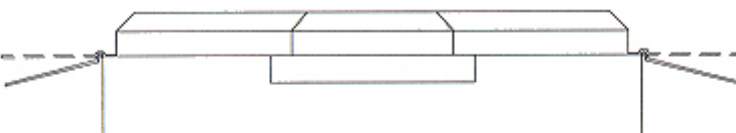

FIG.2
B. Downward Tab Deflection: The device can exhibit downward deflection of .025" before constituting an excessive level. If more than .025" is viewed, the tab can be manually adjusted by gentle pushing upward to approximately parallel with the bottom of the device. See Figure 2.